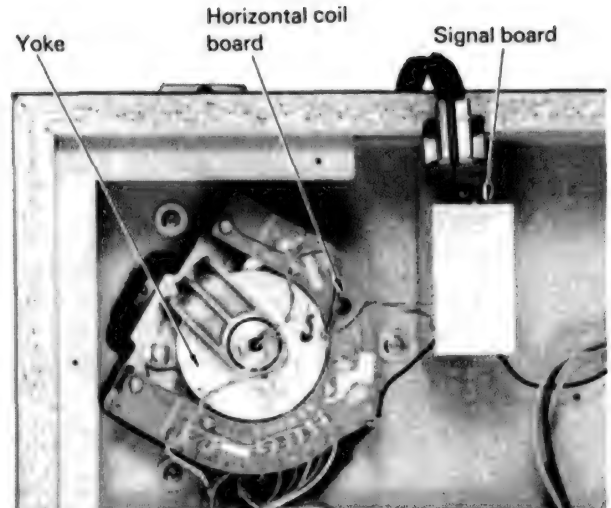

Fig. 27
■ **Removal of horizontal coil P.C. board (Fig. 27)**